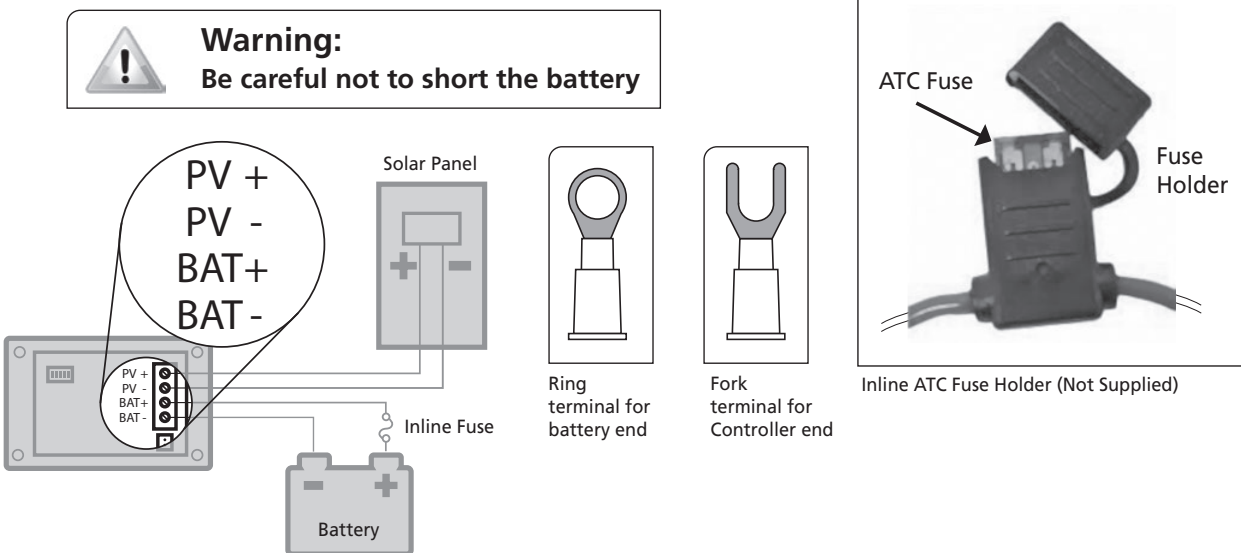

Fig 4.4. Wiring Layout
Refer to wiring layout shown in Fig. 4.4. **NOTE: Wiring and Fuse sizes recommended below are based on use of a single 150W solar panel.**
A pair of 20 foot, AWG#12, pre-assembled cables with Multi-Contact (MC4) Male and Female Connectors is provided to connect the solar panel to the Charge Controller. Please refer to wiring layout at Fig. 4.4 below.
- Make sure the Positive terminal (marked '+') of the battery is connected to the Positive terminal (marked "BAT +") of the Charge Controller and the Negative terminal (marked '-') of the battery is connected to the Negative terminal (marked "BAT -") of the Charge Controller SCC-30AB (Fig. 4.4). If you are not sure, use a DC voltmeter to determine the polarity of the battery bank. **Reverse polarity connection may damage the Charge Controller and the resulting damage will not be covered by warranty.**
- 4 pieces of Fork Terminals (Fig 4.4) have been supplied for crimping on to the wire ends on the charge controller side. These are provided with the SCC-30AB charge controller.
- 2 pieces of Ring Terminals (Fig 4.4) have been provided for crimping on the wire ends on the battery side.
- Use Inline ATC style Fuse Holder on the battery end of the Positive cable (Fig 4.4; NOT SUPPLIED).
9. Crimp the bare end of the wires with the fork terminals provided (Fig 4.4).
10. Insert the terminals into the appropriate terminal on the Charge Controller (Fig 4.4): Positive PV lead is connected to the Positive terminal (marked "PV +") of the Charge Controller and the Negative PV lead is connected to the Negative terminal (marked "PV -") of the Charge Controller. ***Reverse polarity connection may damage the Charge Controller and the resulting damage will not be covered by warranty.***